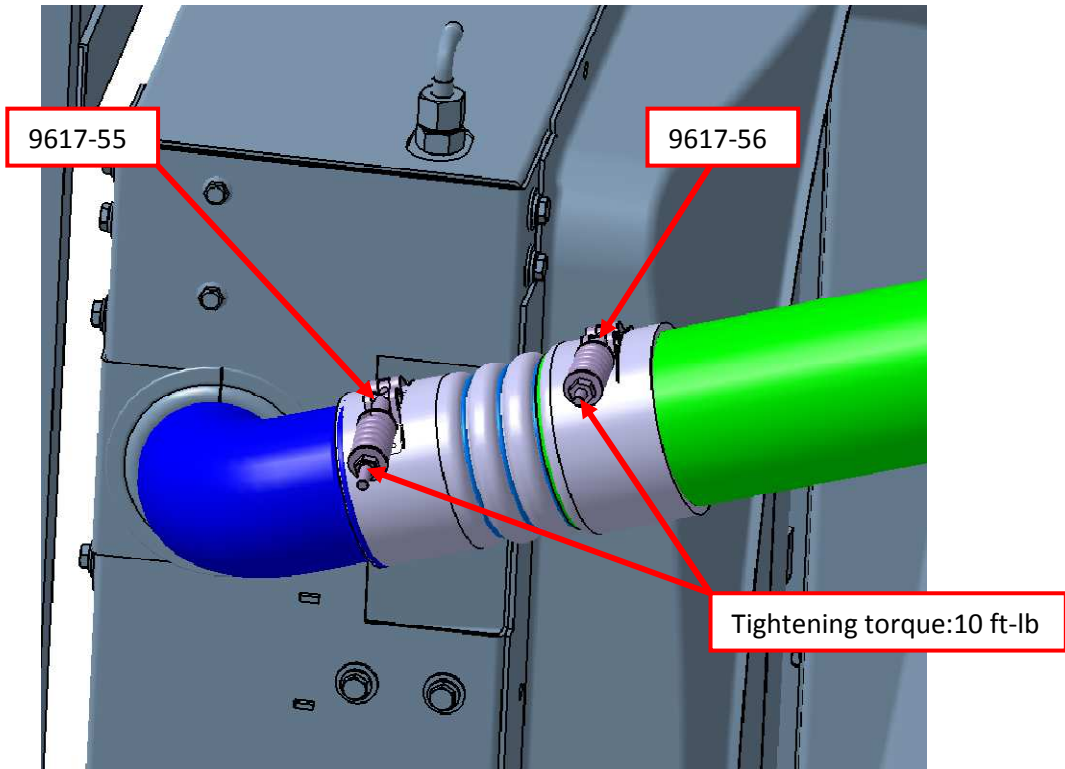

Figure-5
Note: In order to replace CAC Inlet clamps remove the cover indicated below. (See. Figure-5).
4. Replace the clamps indicated below with the new clamps.(CAC outlet). (See. Figure-5).